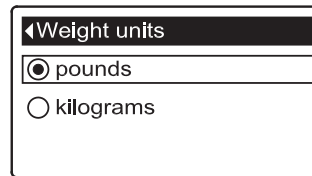

FIG. 113
5. Press the SELECT (O) button to display the Weight units menu (See Figure 113).
6. If the desired weight unit already has a black dot next to it (See Figure 113), go to Step 7. Otherwise, press the DOWN (▼) or UP (▲) buttons to scroll to the other weight unit, then press SELECT (O) to choose it.
7. Press the SELECT (O) button. The display will go back to the User preferences menu.